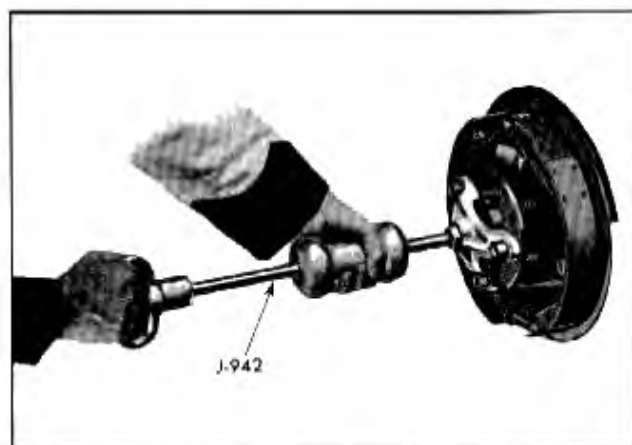

Fig. 4-6 Removing Axle Shaft With Puller J-942
5. Remove axle shaft, using Puller J-942, if necessary (Fig. 4-6). Do not dislodge backing plate or brake pipe may be damaged.